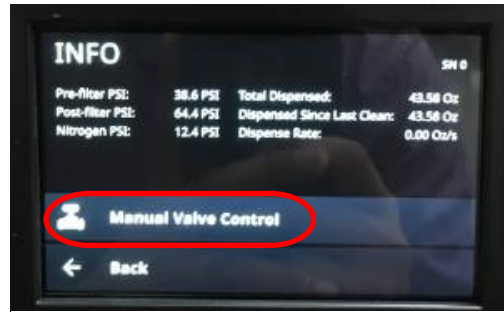

Figure 29b: Machine Info Screen with Manual Valve Control Circled.
- d. Select MANUAL VALVE CONTROL See **Figure 29b**.